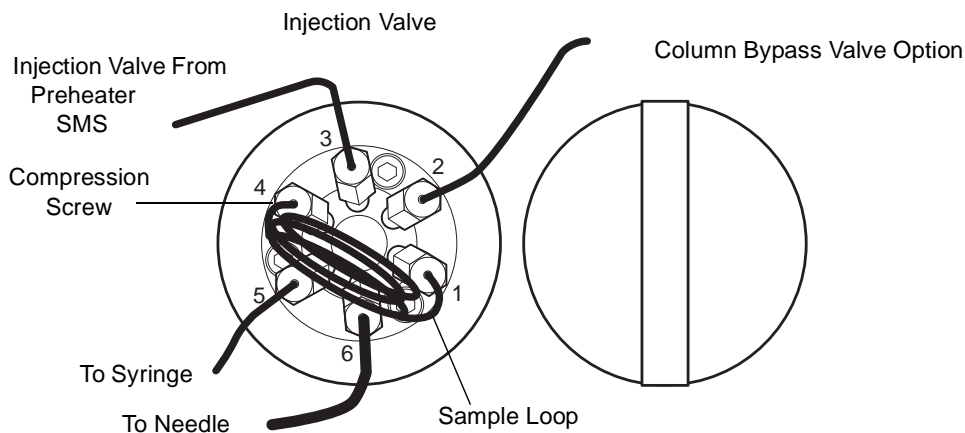

Figure 4-17 Changing the Sample Loop
3. Use the wrench to loosen the two compression screws that connect the sample loop to ports 1 and 4 of the injection valve, then remove the sample loop (Figure 4-17).
3. Use the wrench to loosen the two compression screws that connect the sample loops to ports of the injection valve, then remove all the sample loops (Figure 4-17).